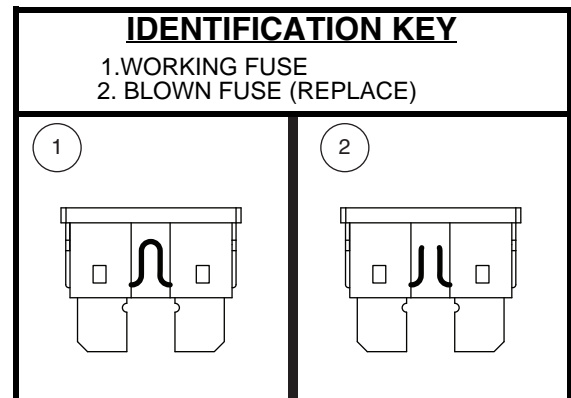

Figure 24. Fuse Replacement
2. Examine the fuse to be sure it is blown. **See figure 24.**